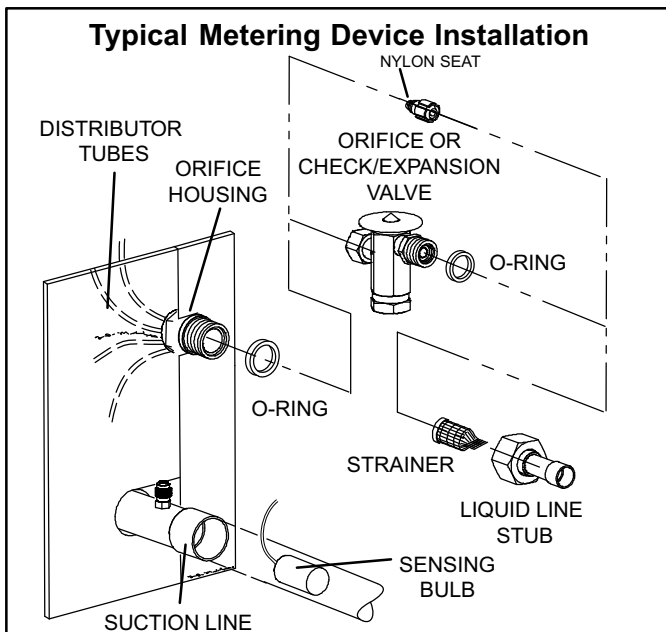

Figure 2. Typical Metering Device Installation
1. Ensure that the orifice is installed with the nylon seat pointing toward the distributor (see figure 2).
1. Remove factory-installed metering orifice from orifice housing (see figure 2).
The sensing bulb must be positioned as shown in figure 2 to ensure proper valve operation.